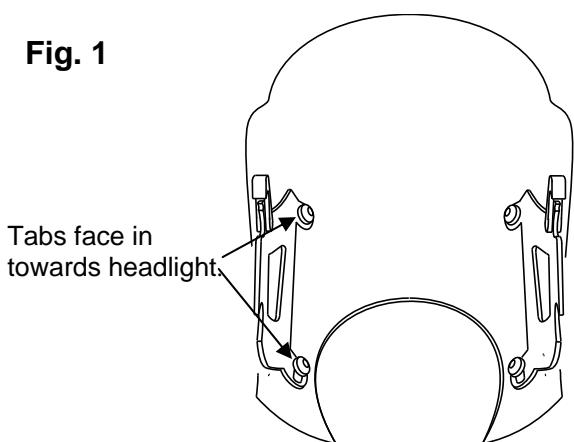

Fig. 2
3. Remove the bolt from both turn signal clamps using the 8mm and 10mm wrench. (Fig 2)
4. Remove the turn signal bracket. (Fig 2)